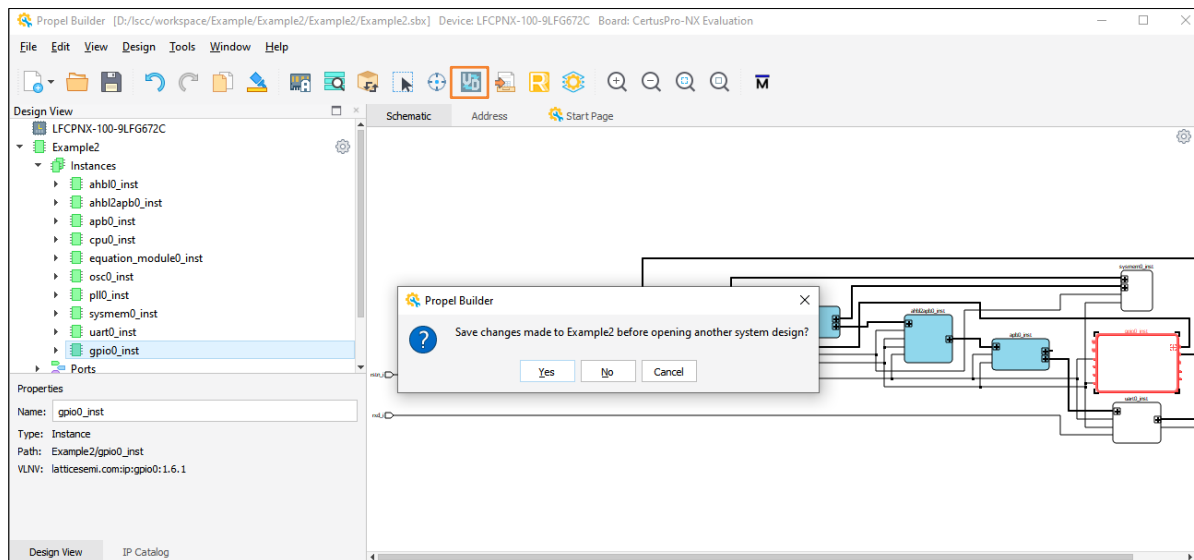

Figure 2.157. SoC Design Project
2. From design project window, click **V/D button** . A dialog box opens prompting you to save the changes, if the current design project is not saved yet (Figure 2.157).
- SoC design project is called *****.sbx**. Verification project is called *****_v.sbx** (Figure 2.157).